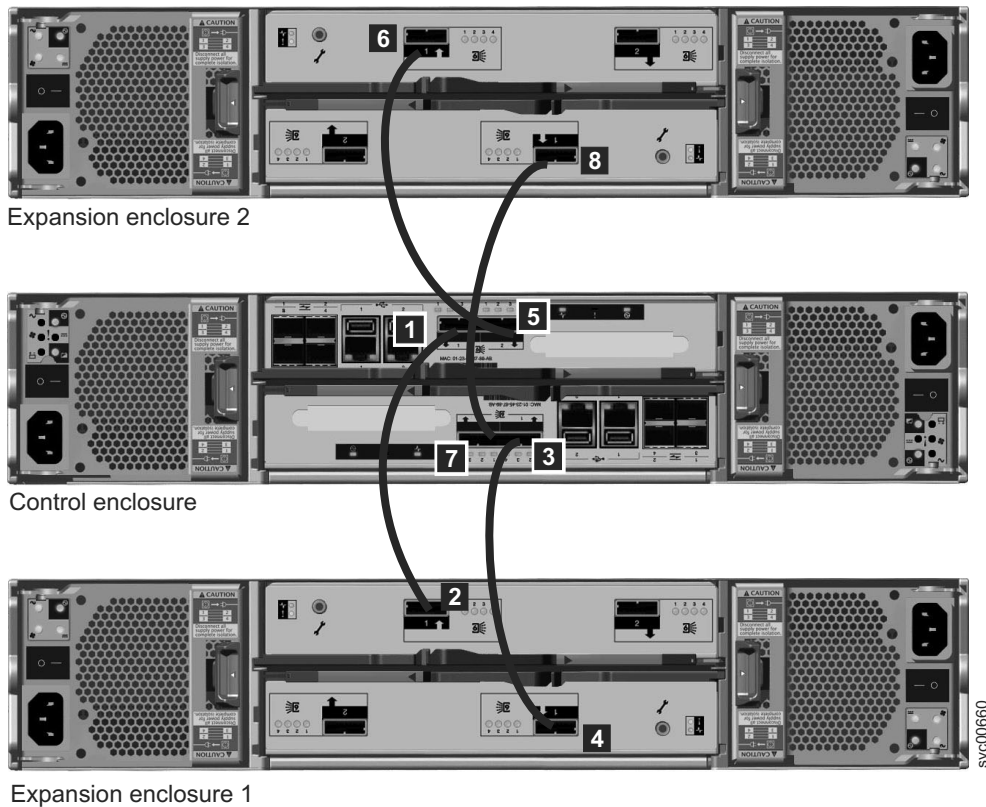

Figure 13. Adding a second expansion enclosure
3. Attach the SAS cables from the control enclosure to the second expansion enclosure as shown in Figure 13 on page 16. The second expansion enclosure is above the control enclosure.